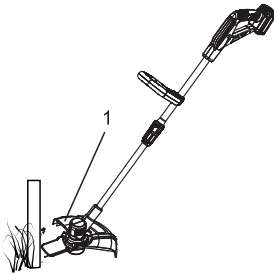

Fig. 16
If the cutting circle is getting too small, the trimmer line may be either jammed on the spool or has run out. Manually advance the line as outlined in Fig. 16. If that fails, see "CORRECTING A JAMMED OR SHORT TRIMMER LINE" below.
When finished trimming, clean the underside of the guard and the spool. Advance the line as outlined in Fig. 16 to ensure the line is the correct length for the next trimming.
To protect the trimmer line from damaging a post, deck etc., lower the trimming guide (1) and configure the trimmer (Fig.16).